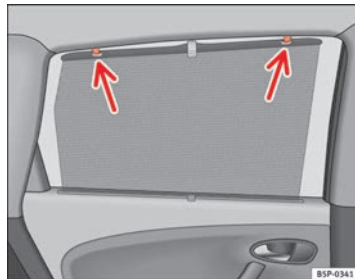

Fig. 85 Rear door sun visor
- Pull out the visor and hook it onto the hooks at the top of the door frame ⇒ fig. 85.